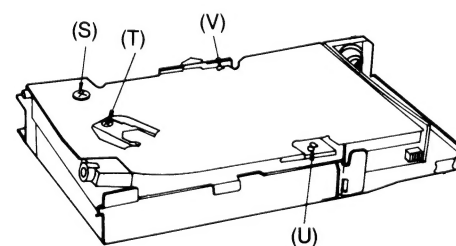

Fig. 12
4. Take out the screw (S)×1 (1.6×2.2)mm and screw (T)×1 (1.4×1.4)mm and unsolder (U) and (V). (Fig. 12)